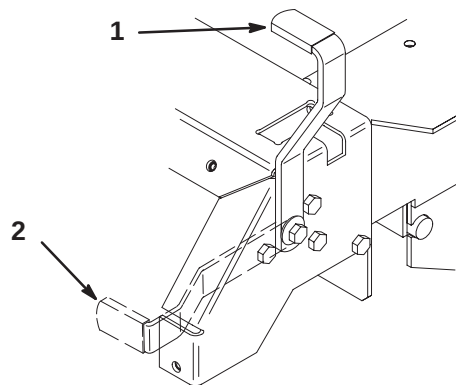

Figure 9
2. Pull back and up on the parking brake lever to set the parking brake (Fig. 9). The parking brake lever should stay firmly in the Engaged position.
Push forward and down on the parking brake lever to release the parking brake (Fig. 9). The parking brake is disengaged.